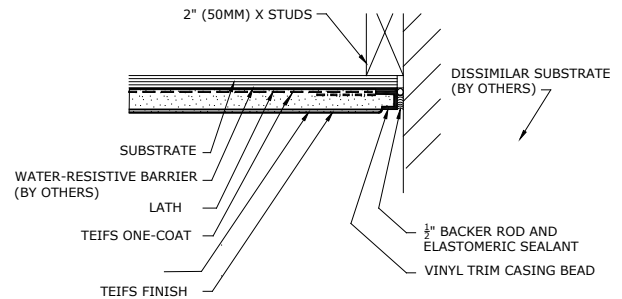

Fig. 10.1
- Plaster stops or casing beads should be installed to create a minimum 1/2 in. (13 mm) gap at all abutments to allow for installation of backer rod and sealant (Fig. 10.1).